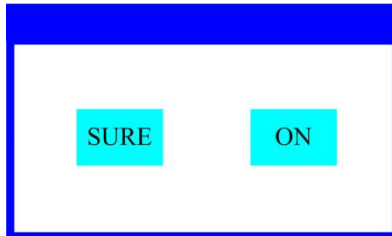

Figure 7 Dialog of confirm
- When the parameter is a key item, chick corresponding item, a dialog shown in Figure 7 will been popup ask for the confirm. Chick 'sure' to confirm.